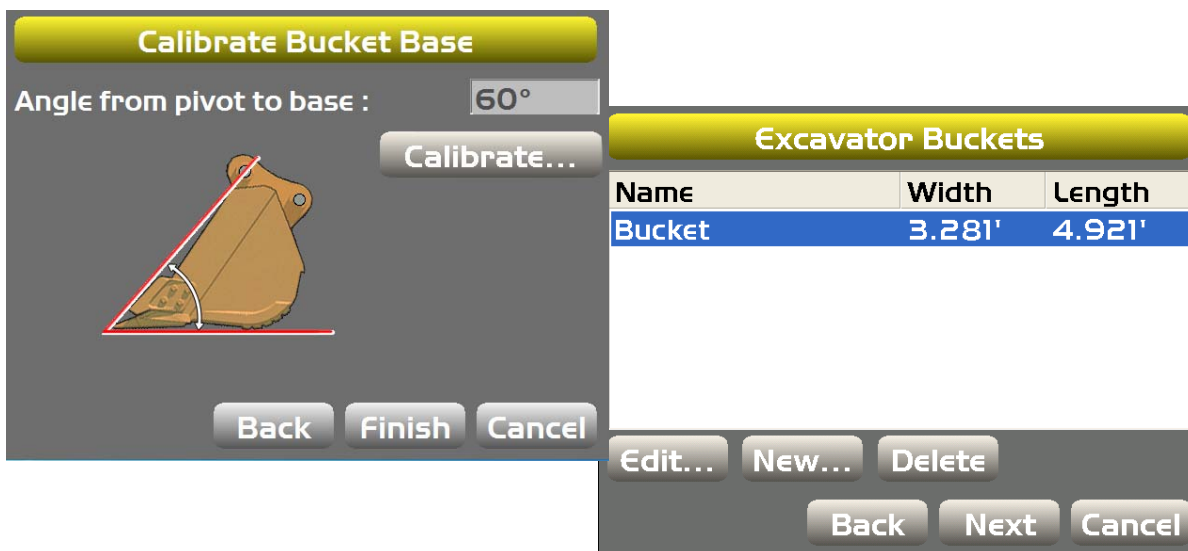

Figure 46: Calibrate Bucket Base
3. Move the bucket so that the bottom of the bucket lays flat on the ground, and tap **Calibrate**; tap **Finish** to go to the **Excavator Buckets** screen (Figure 46).